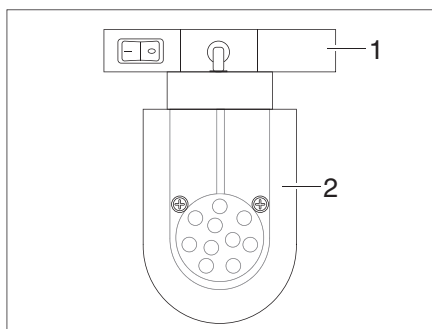

Fig. 64 LED spot light (example)
- Grasp the holder (Bild 64,1) and turn it 90°.
- Remove the LED spotlight (Bild 64,2) from the rail system.
- Insert the LED spotlight (Bild 64,2) into the rail system at the desired position and turn 90°.